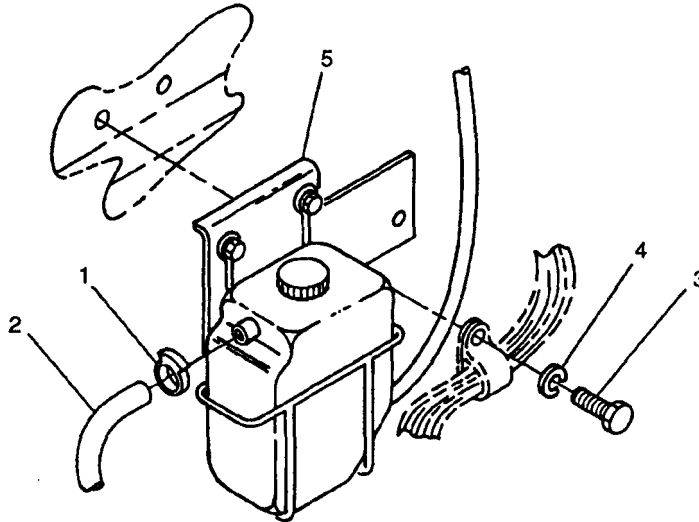

FIGURE 3-3. Overflow Bottle Assembly
- k. Loosen clamp (1, FIGURE 3-3) and disconnect hose (2) from overflow bottle assembly(5).
- l. Remove bolts (3), lockwashers (4), and overflow bottle assembly (5) from right side of engine.